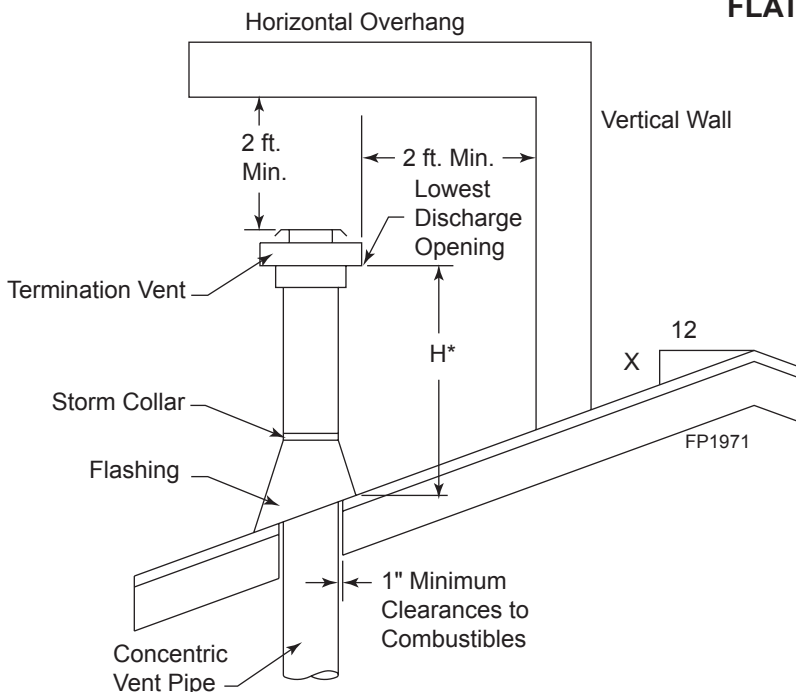

Figure 26 - Minimum Chimney Clearance
- For the minimum height of the vent above the highest point of penetration through the roof refer to Page 20, Figure 26.